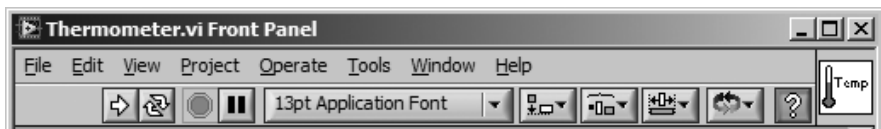

Figure 5.27
2. Create an icon for the VI. Open the Icon Editor dialog by selecting **Edit Icon . . .** from the pop-up menu of the VI's icon pane (on either the front panel or block diagram window). Use the tools described earlier in this chapter (in the "Designing the Icon" section) to create the icon; then click the OK button to return to the main VI. Your icon should appear in the icon pane, as shown in Figure 5.27.